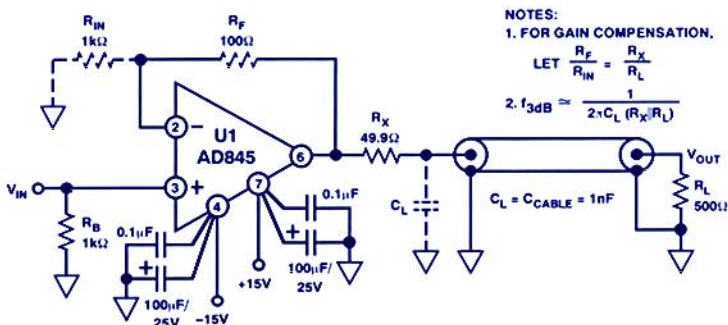

Figure 2. Open-loop series resistance isolates capacitive load in voltage-input op-amp circuit.
- Loss of slew rate: The capacitive load can limit the slew rate (SR). In general, the inherent SR of the amplifier will be reduced to $I_{O(max)}/C_L$ volts per second. For example, while the AD845 has a basic SR of 100 V/ μ s, the ± 50 -mA output-current limits cause it to fall to about 50 V/ μ s with $C_L = 1$ nF. The SR is subject to the uncertainty of the amplifier’s short-circuit current limit, which usually varies inversely with temperature. *This general limitation will apply to any capacitively loaded amplifier and is particularly acute in high-slew-rate devices.*
The general technique of Figure 2 can be used with most amplifiers. The higher-speed, ± 100 -mA-output AD842—manufactured on a complementary bipolar (CB) process—provides more current to a load, but it must be connected for a closed-loop gain of at least 2 V/V. This can be done without affecting the low-frequency gain by connecting an appropriate “dummy” noise-gain resistor between the amplifier’s \pm inputs. (R-C networks can also be used, avoiding an increase in output dc offset—but possibly increasing settling time.)
This circuit, similar to Figure 2, is configured differently for gain, because the AD811 is a transimpedance amplifier. When they are used as non-inverting gain stages, the value of R_F is fixed, and R_{IN} ’s value is set to adjust the gain. For the conditions of Figure 2, R_F is set at 750 Ω ; for a simple voltage follower, R_{IN} is left open. To correct for the output attenuation, R_{IN} is 30.9 k Ω .
The AD811 also permits R_F to be increased to improve capacitive load-handling for $R_X = 0$, but with less-flat frequency response. With $R_X = 12$ Ω , as shown, response is optimized into a 1-nF load⁴. The AD811 has major benefits in this application, since the bandwidth is increased (over Figure 2) to 13.5 MHz. The ± 150 -mA short-circuit output drive of the AD811 increases the circuit’s SR to 150 V/ μ s (much less than its unloaded 2500 V/ μ s spec, but much more than that of Figure 2).